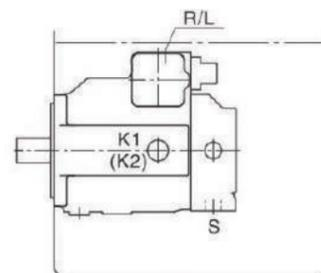

图3
a) 当油箱的最低液面与泵的上端等高或更高,泄油口和《S》口可开放(见图3)。
When the minimum level in the tank is as same as or higher than the upper end of the drain port and port S can be open (see Figure 3)